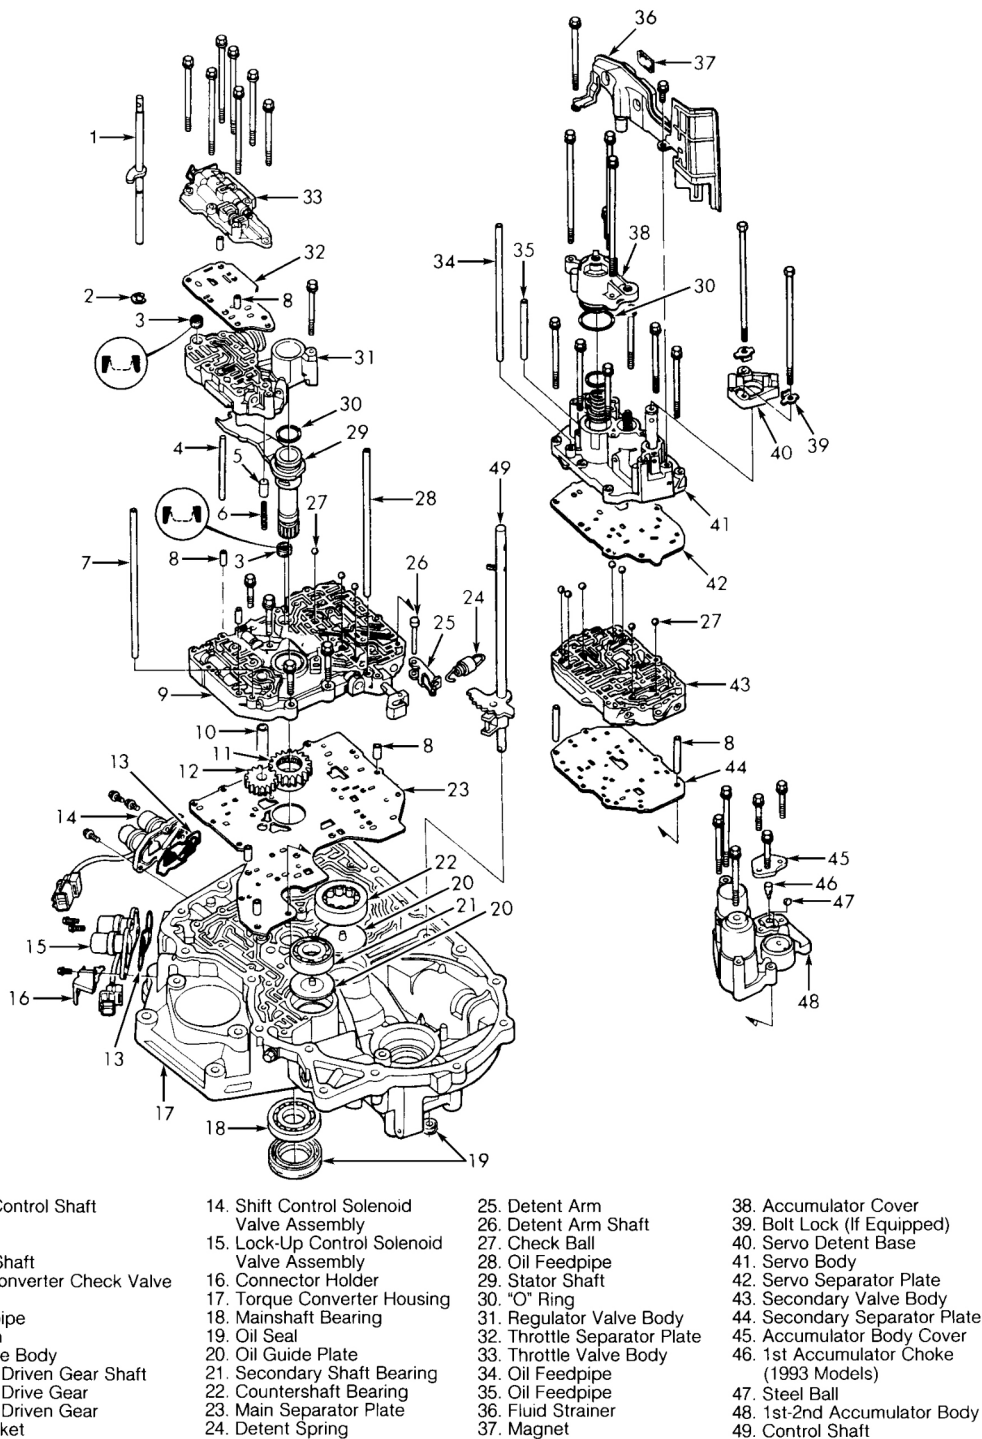

Fig. 14: Exploded View Of Torque Converter Housing & Components
12. Remove cable control lever from end of control shaft. Remove bolt, bolt locks (if equipped) and servo detent base. See **Fig. 14**. Remove bolts and fluid strainer.
13. Remove oil feedpipes from servo body and main valve body. Remove bolts and accumulator cover. See **Fig. 14**. Remove bolts, servo body and servo separator plate.